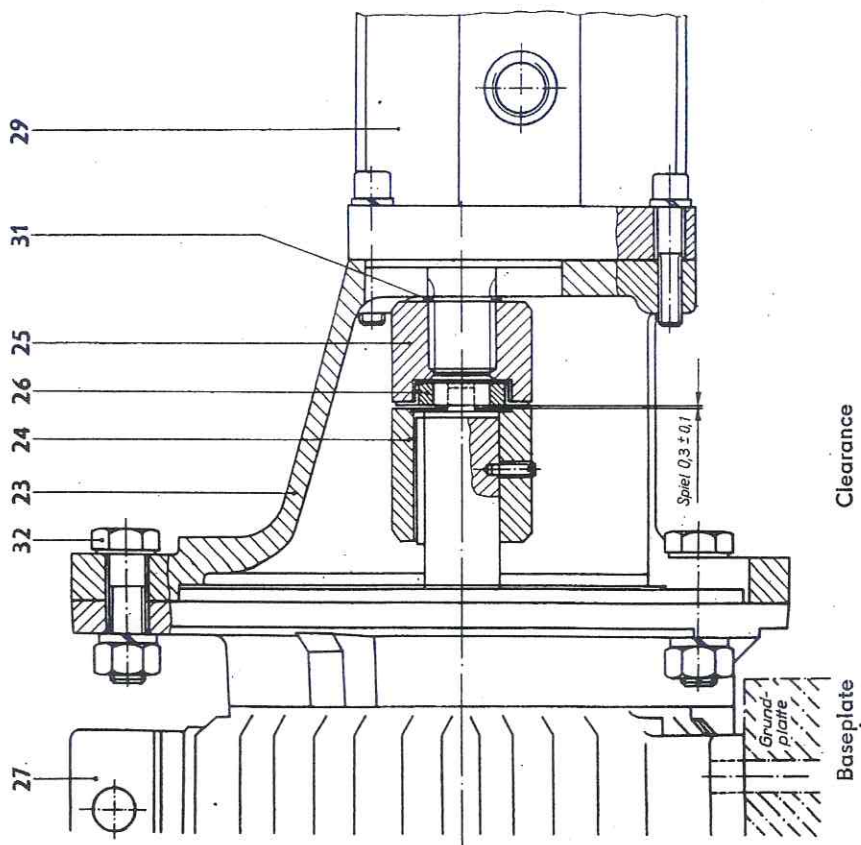

Fig. 5.1 Gear pump combination
- intermediate flange M, TGL 10 859, as a connecting part between the gear pump and the VEM standard KMR motor, which comprises — (see Figs. 5.1. and 5.2.)